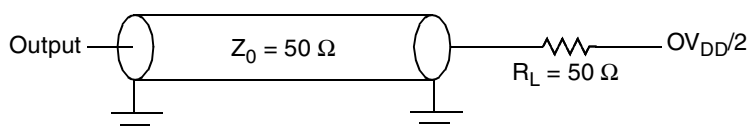

Figure 14. Local Bus C Test Load
Figure 14 provides the AC test load for the local bus.
1. All outputs are measured from the midpoint voltage of the falling/rising edge of  $t_{TCLK}$  to the midpoint of the signal in question. The output timings are measured at the pins. All output timings assume a purely resistive 50-Ω load (see Figure 14). Time-of-flight delays must be added for trace lengths, vias, and connectors in the system.
2. The symbols used for timing specifications follow the pattern of  $t_{(first\ two\ letters\ of\ functional\ block)(signal)(state)(reference)(state)}$  for inputs and  $t_{(first\ two\ letters\ of\ functional\ block)(reference)(state)(signal)(state)}$  for outputs. For example,  $t_{JTDV KH}$  symbolizes JTAG device timing (JT) with respect to the time data input signals (D) reaching the valid state (V) relative to the  $t_{JTG}$  clock reference (K) going to the high (H) state or setup time. Also,  $t_{JTDX KH}$  symbolizes JTAG timing (JT) with respect to the time data input signals (D) went invalid (X) relative to the  $t_{JTG}$  clock reference (K) going to the high (H) state. Note that, in general, the clock reference symbol representation is based on three letters representing the clock of a particular functional. For rise and fall times, the latter convention is used with the appropriate letter: R (rise) or F (fall).